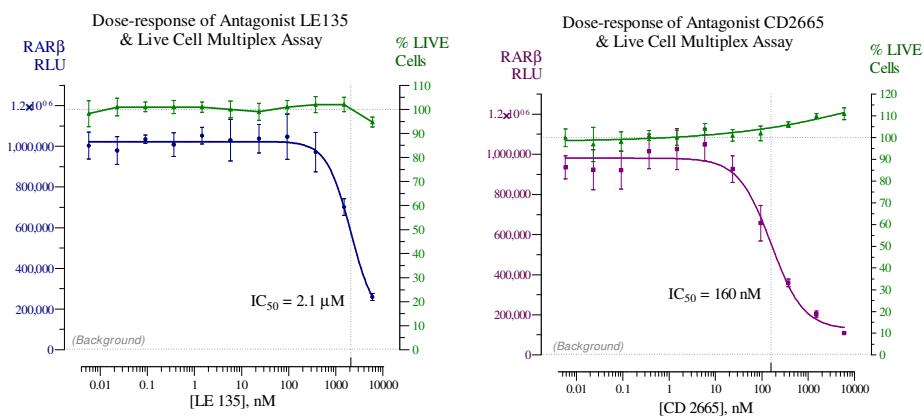

Figure 2b. Validation of RAR β antagonist dose-responses performed in combination with INDIGO's Live Cell Multiplex Assay.
- *Optional*: antagonist reference compound (see Fig. 2b).